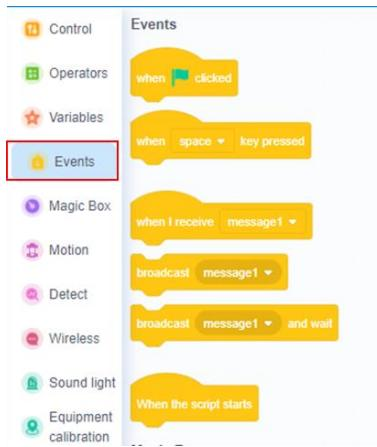

Figure 4.21 Event block
- The program written with blocks requires triggering conditions to run. Therefore, you need to select a command from the event block as the triggering condition, as shown in Figure 4.21. For example, means the program starts to run once you click .